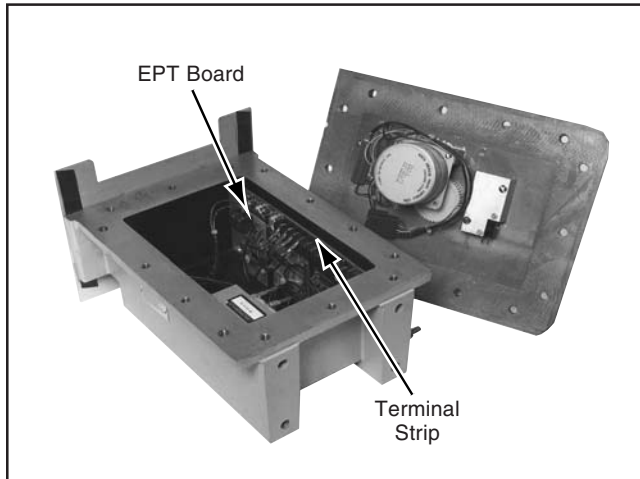

Figure 4 — ETP Board Removal
1. Record the wire numbers or the color code of the wire terminations on the terminal strip of the ETP Board. These wires must be removed before removing the ETP Board (Figure 4).